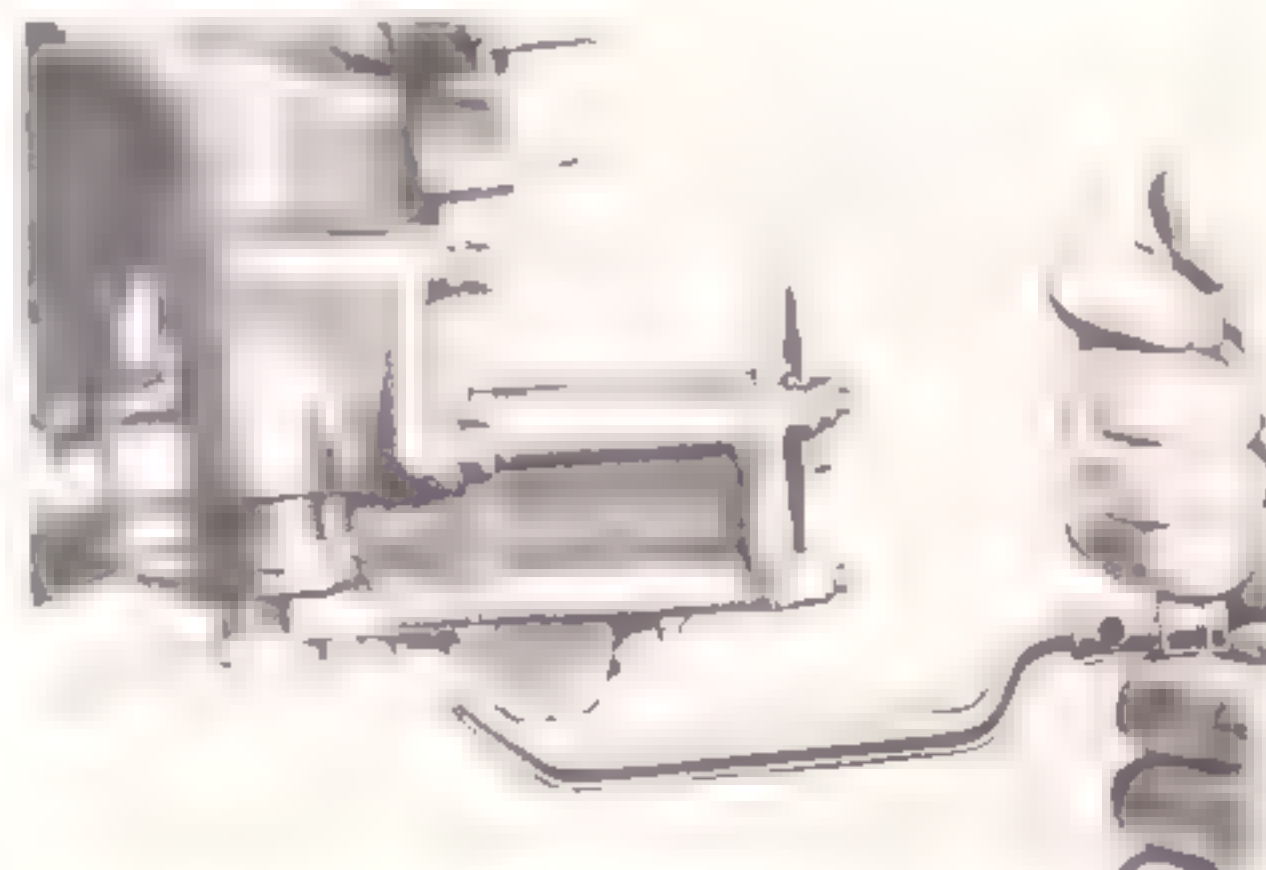

Figure 5-49. Removing screws securing external scavenge oil line
- c. Remove lock wire and remove screws and washers securing external scavenge oil line (5, figure 5-39) from rear flange of rear oil pump adapter. Use crow-foot attachment, part No. 804885, FSN 5120-033-0653. (See figure 5-49.)